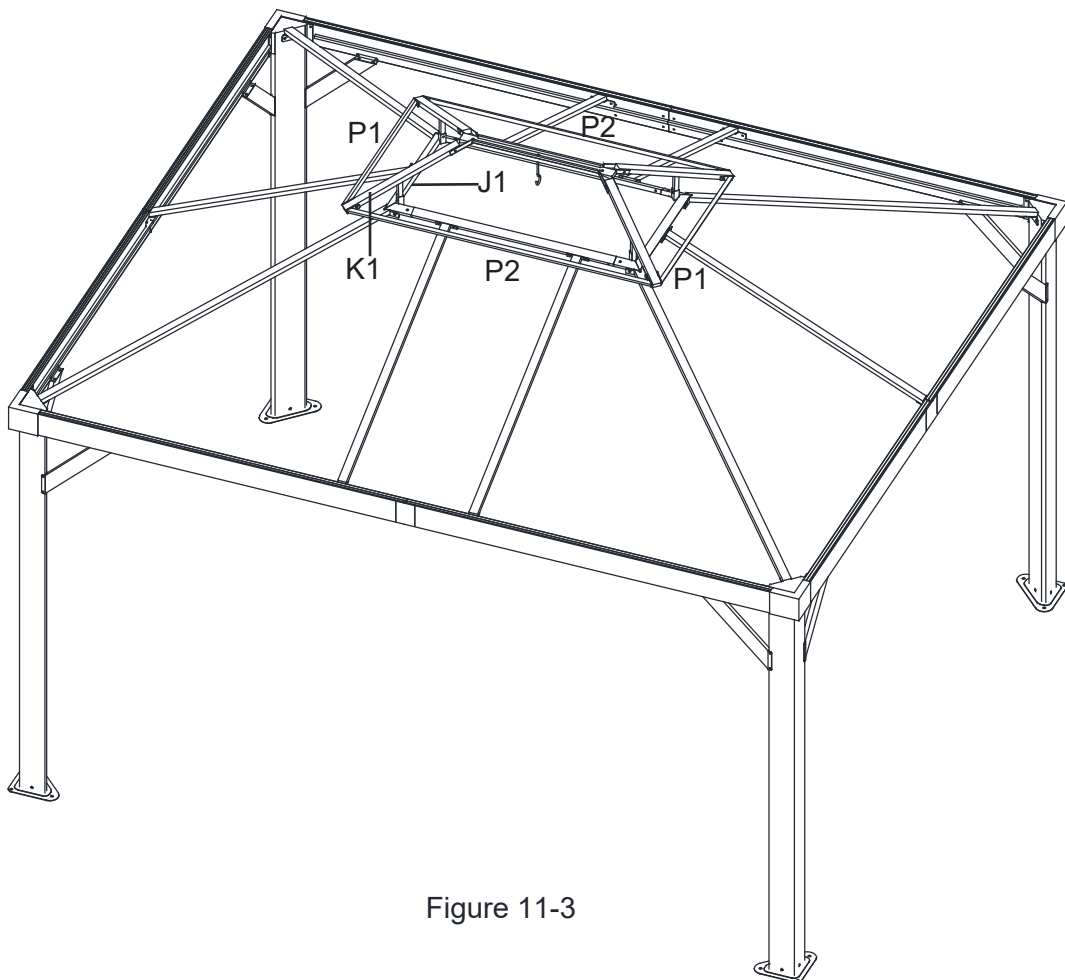

Figure 11-3
11.2: Attach the sides of the Roof Vent Frame by connecting the Short Side (P1) and Long Side (P2) to the Roof Vent Corner Support (K1) using Bolts (AA) and Steel washer (AA-1). See Figure 11-3.
11.3: Repeat for all sides. Tighten all Bolts. See Figure 11-3.